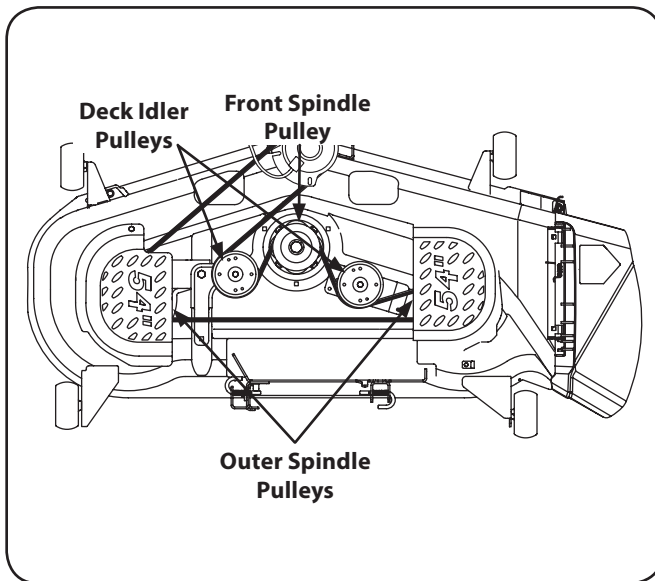

Figure 7-8
- To place the new belt begin by routing the belt around the two outer spindle pulleys, then around the front spindle pulley as shown in Fig. 7-8.
- Route the belt around the two deck idler pulleys as shown in Fig. 7-8.